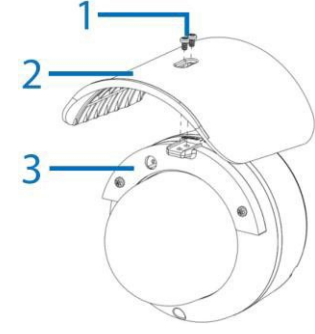

Figure 13
7. Place the weather shield cover (2) (Figure 13) onto the bracket (3) (Figure 13) and align the two holes on both.
8. Use the Phillips screwdriver and securely insert the two M4 6mm screws (1) (Figure 13) to securely attach the weather shield cover to the bracket.